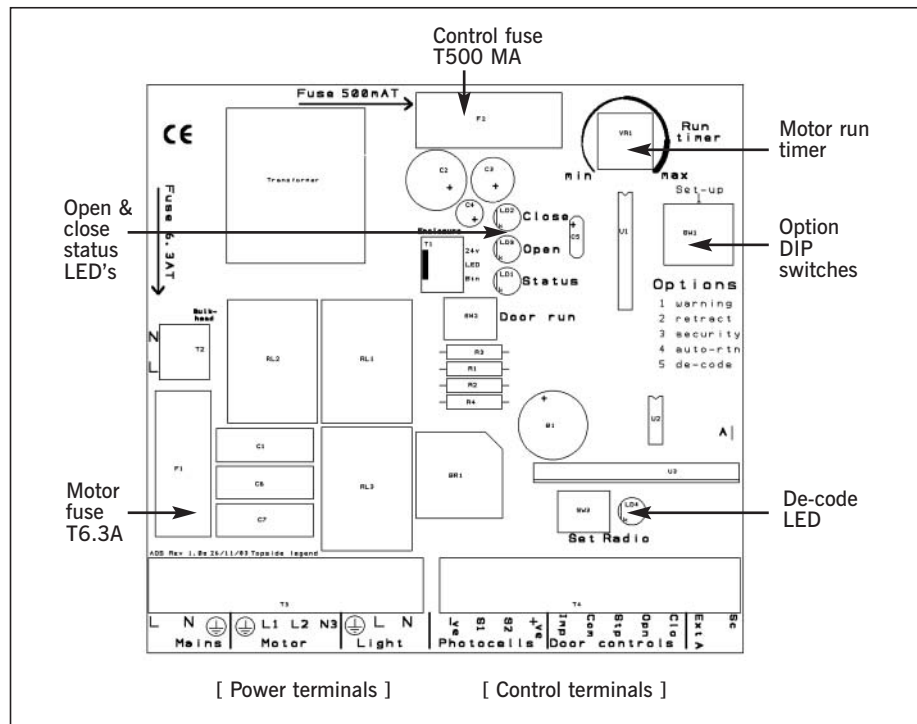

Fig 29 Control unit PCB layout
**(SEE ALSO MAIN ELECTRICAL DIAGRAM FIG 29)**
- 2) Check fuses in control box (see Fig 29)